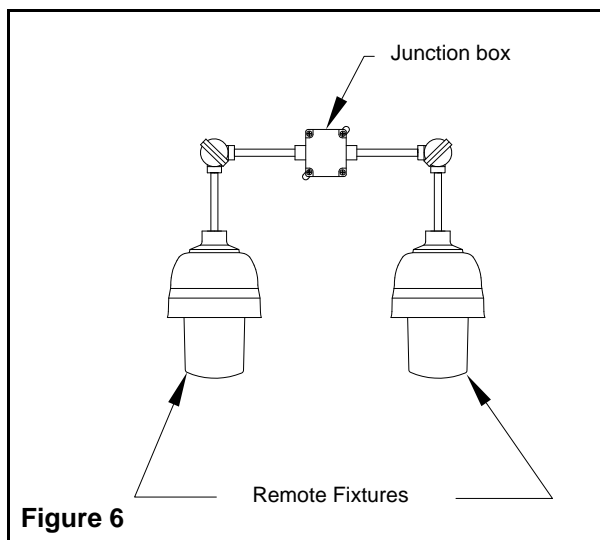

Figure 6
- Remove junction box cover (see fig. 6). Remove conduit plugs from inside.